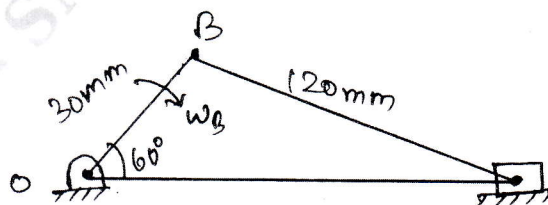

Fig.Q4.
- 4 In a slider crank mechanism, the crank OB = 30 mm and the connecting rod BC = 120 mm. The crank rotates at a uniform speed of 300 rpm clockwise. For the crank position shown in Fig.Q4, in which the crank is turned  $60^\circ$ , find (i) velocity of piston C and angular velocity of connecting rod BC (ii) Acceleration of piston C and angular acceleration of connecting rod BC.